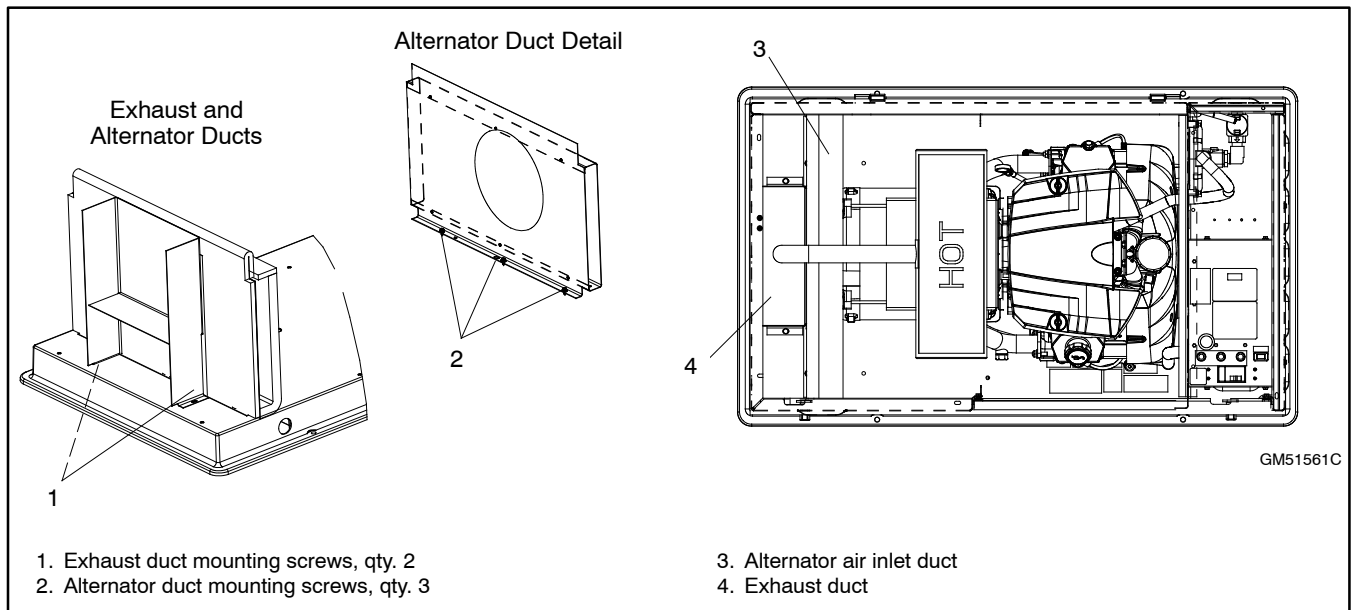

Figure 7-38 Alternator Air Inlet Duct, 20RESB and 20RESD
21. Reinstall the alternator air inlet duct. Orient the duct as shown in Figure 7-38.
22. Install the exhaust duct. See Figure 7-38.